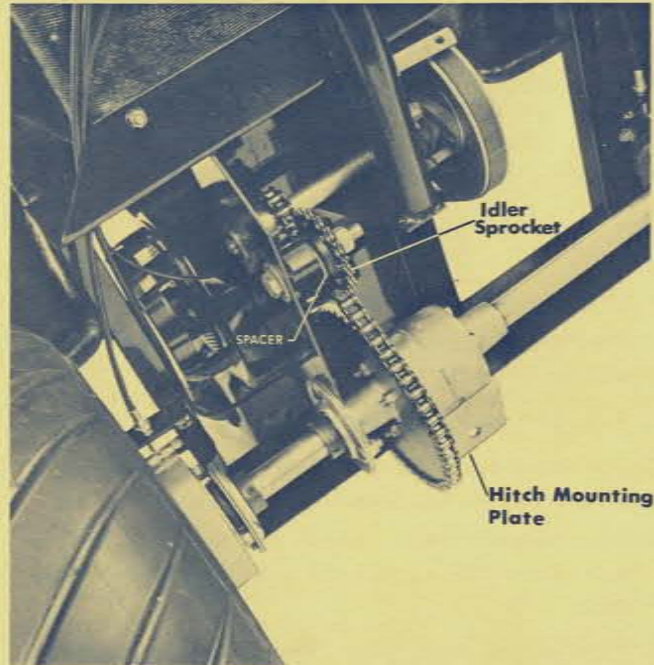

Figure 4
1. To adjust chain loosen bolt holding idler sprocket and move to desired position. (DO NOT HAVE CHAIN TOO TIGHT) and retighten nut and bolt. (See Fig. 4).